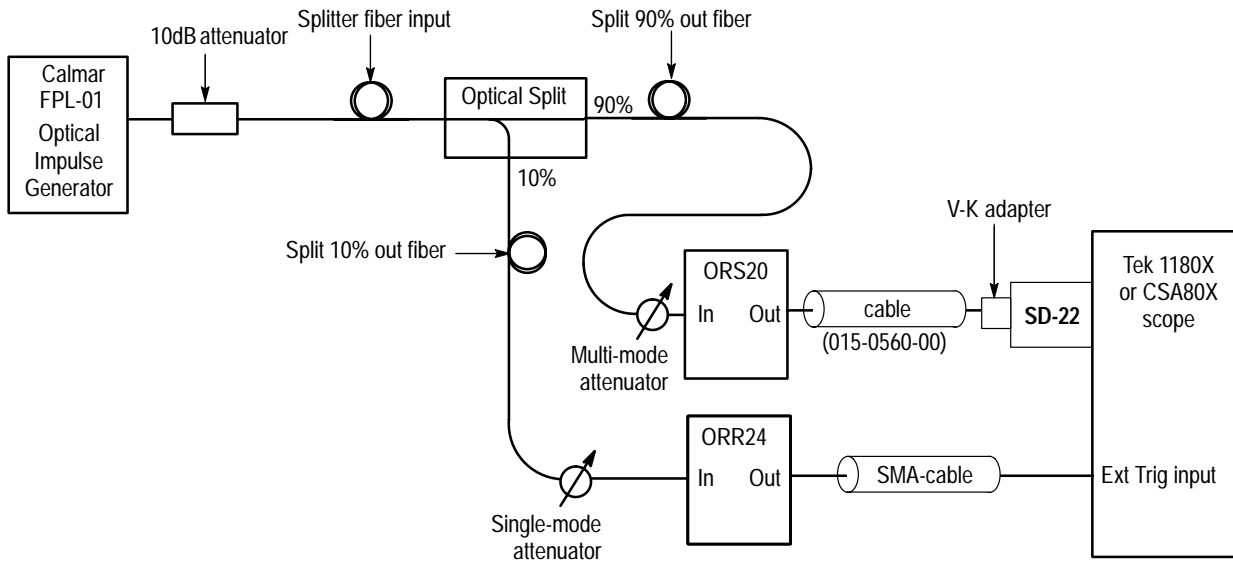

Figure 9: Setup for frequency response measurement using Calmar FPL-01
1. Connect the output of the optical impulse generator to the 10 dB inline attenuator, 90/10 splitter, and optical attenuators as shown in Figure 9. Start with about 30 dB of attenuation on both variable attenuators.
3. Finish connecting the setup as shown in Figure 9. Note that this requires an SD-22 sampling head.